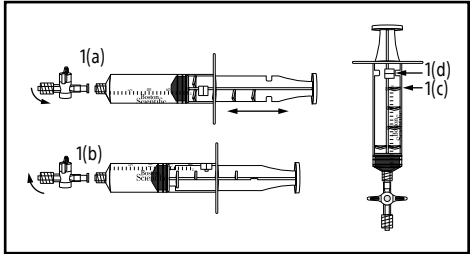

Figure 1.
1. Examine the stopcock (Figure 1(a)). The stopcock has two luer connections to attach to the needle and syringe. Air can be exchanged with the stopcock in the open position. The stopcock is open when it is aligned parallel to the syringe; it is closed when perpendicular to the syringe (as shown).
2. Examine the syringe (Figure 1). The syringe barrel has one stop pin (Figure 1(d)) and the syringe plunger has four locking fins (Figure 1(c)). The syringe plunger can be maneuvered within the syringe barrel to lock and unlock the syringe. To lock the syringe, pull back on the plunger until it aligns with the desired suction volume (Figure 1(a)). Turn the plunger clockwise so that the locking pin engages with the locking fins on the plunger (Figure 1(b)). Turn the plunger counterclockwise to release.
11. Prepare the supplied syringe and stopcock as previously noted. Rotate the stopcock to the closed position, perpendicular to the syringe. Pull the syringe plunger to the desired volume and use the locking fins and stop pin on the syringe to secure the plunger in place. (Figures 1(c) and 1(d)).
Note: The locking fins and stop pin (Figures 1(c) and 1(d)) will have to be disengaged in order to pass air from the syringe.